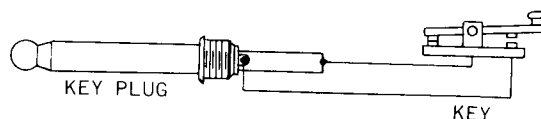

Figure 4 Key Plug Connection
For CW operation, insert the plug into the key jack (3) on the rear panel. Refer to Fig. 4 for the key plug connection.